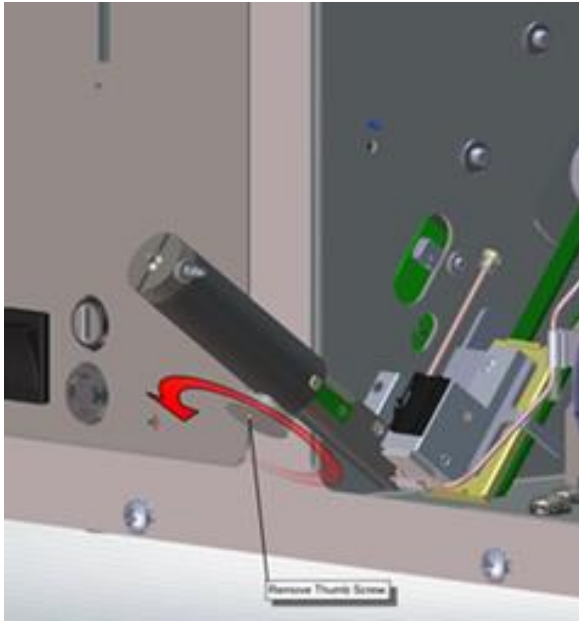
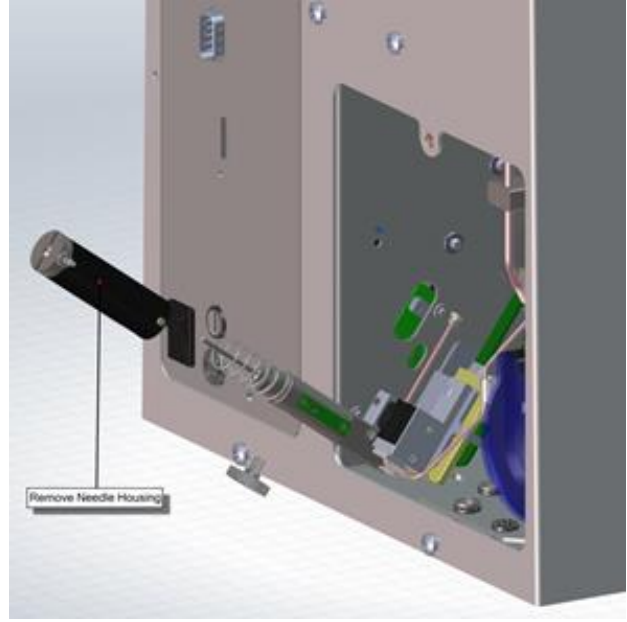
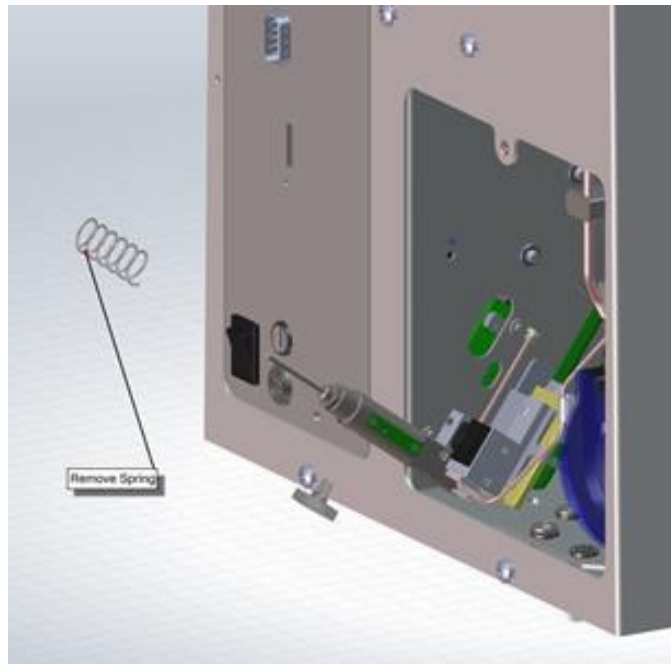

Figure 7
Figure 8
Figure 9
7. Remove Thumb Screw from Probe Tube shown in Figure 7. Now you are able to remove the Probe Tube Assembly (Figure 8) and the spring from Needle Piston Assembly (Figure 9).